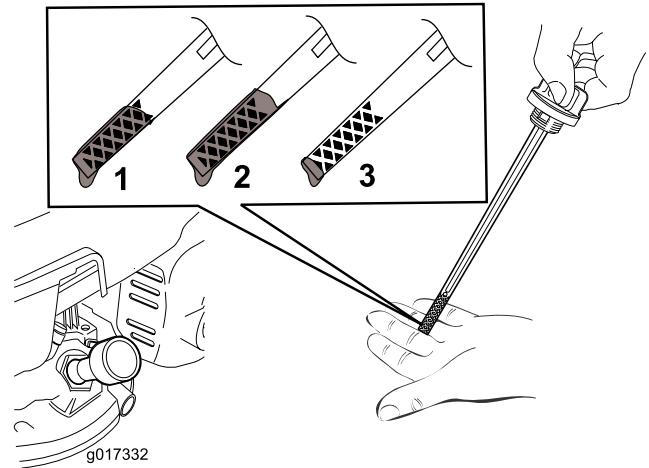

Figure 7
2. Remove the dipstick (Figure 7).
**Note:** Fill the engine crankcase with oil until the dipstick indicates that the engine-oil level is correct as shown in Figure 7. If you overfill the engine with oil, remove the excess oil as directed in Changing the Engine Oil \(page 15\).